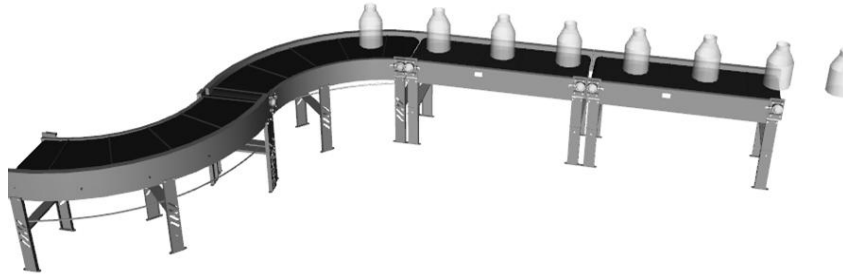

**Figure L6.8 - Conveyor with Empty Bottles**
5. Duplicate the Empty Bottle seven times so that there are 8 empty bottles all together. Place these bottles on the conveyor as shown in Figure L6.8.